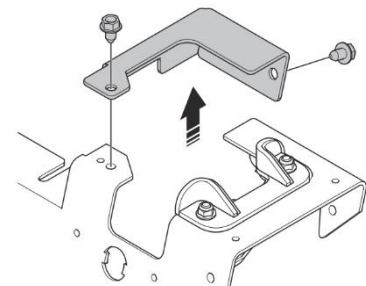

Fig. 2:
- b) If the product has closeout panels, remove the bolts and panels (figure 2).